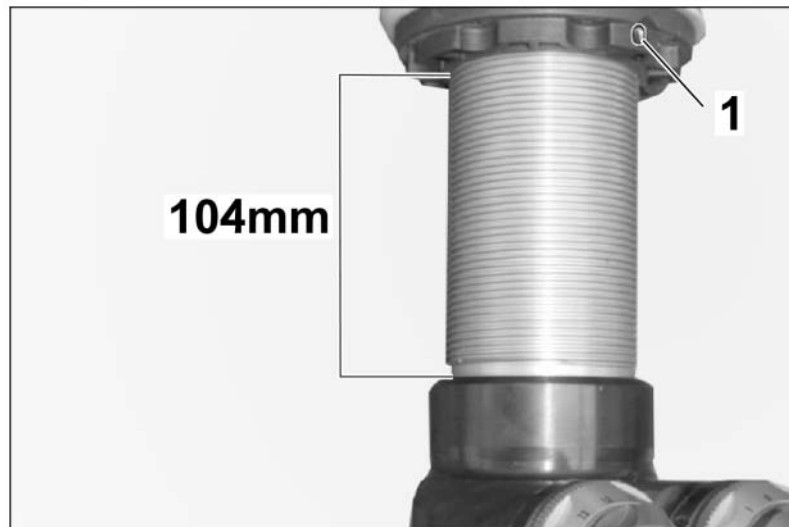

Figure 16
- 14. – Set the chassis height before installing the rear axle dampers in the vehicle. For vehicles with and without a lift system, the pre-setting from the lower housing collar to the lower edge of the spring plate is 104 mm/ 4.09 in ⇒ *Figure 16*. The locking screw on the spring plate may have to be loosened for adjustment.